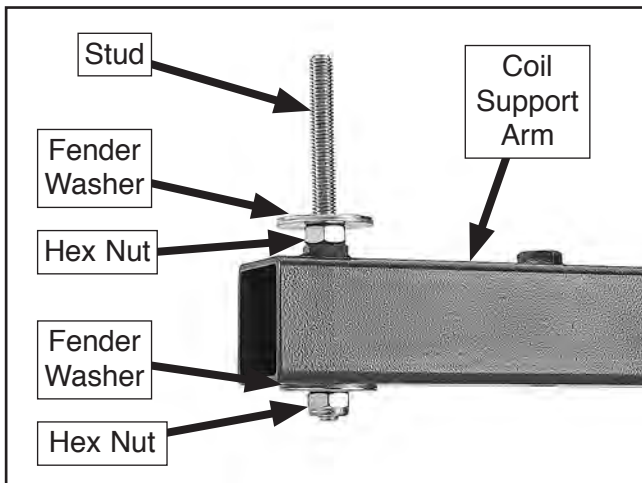

Figure 26. Stud secured against coil support arm.
- Install (1) M10-1.5 hex nut and (1) 10mm fender washer on coil support stud (see **Figure 26**), and tighten hex nut against top of coil support arm, then tighten hex nut against bottom of support arm (see **Figure 26**).